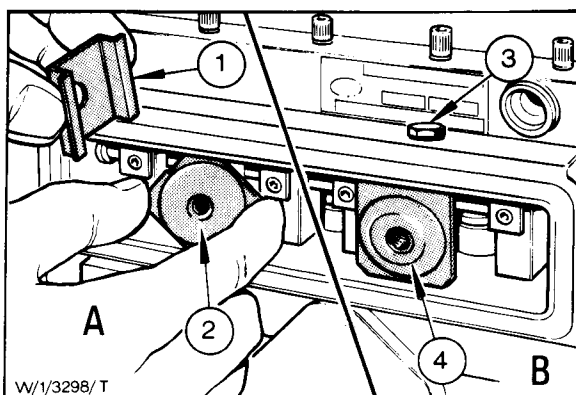

Fig. 22 - Fitting the Side Cover Retainers
3. As shown in Fig. 22, place the side cover retainers in position in the housing and secure with the lock bolts or spring retainers. Install a new sealing ring in the groove in the cambox and fit the side cover. Screw in the retaining bolts or screws and tighten to the specified torque.